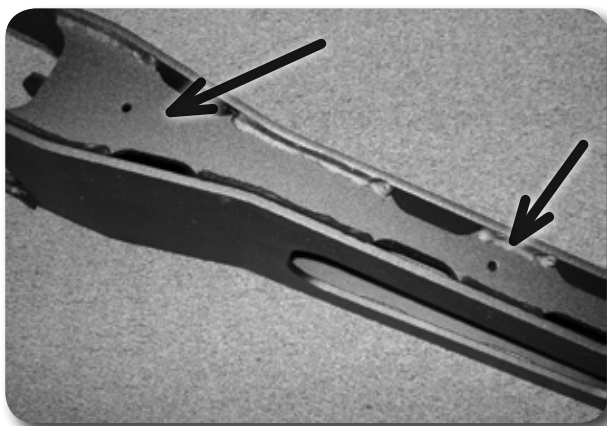

Figure 17
35. Attach the ABS wires to the new radius arms using the provided mountable zip ties installed into the small holes located in the top of the radius arms. Figure 17 Tighten securely and cut off excess zip tie material.